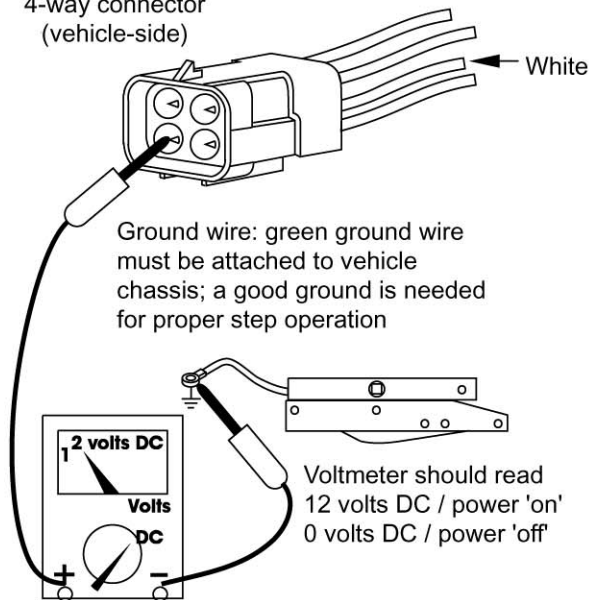

FIGURE 8: Check door switch
3. To check the door switch, connect a voltmeter between the red wire from the 4-way connector (vehicle half) and the brown in the same connector (see **Figure 8**) on Page 11). The voltage should be a minimum of 12 volts DC (the same as in Step 1) when the door is closed and zero (0) volts when the door is open.